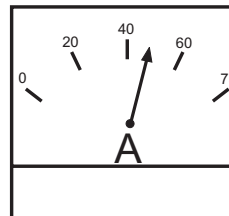

Figure 38. Ammeter (Load)
19. Look at the generator's ammeter (Figure 38) and verify that it reads the anticipated amount of current with respect to the load. Remember the ammeter will only display a current reading if the load is in use.